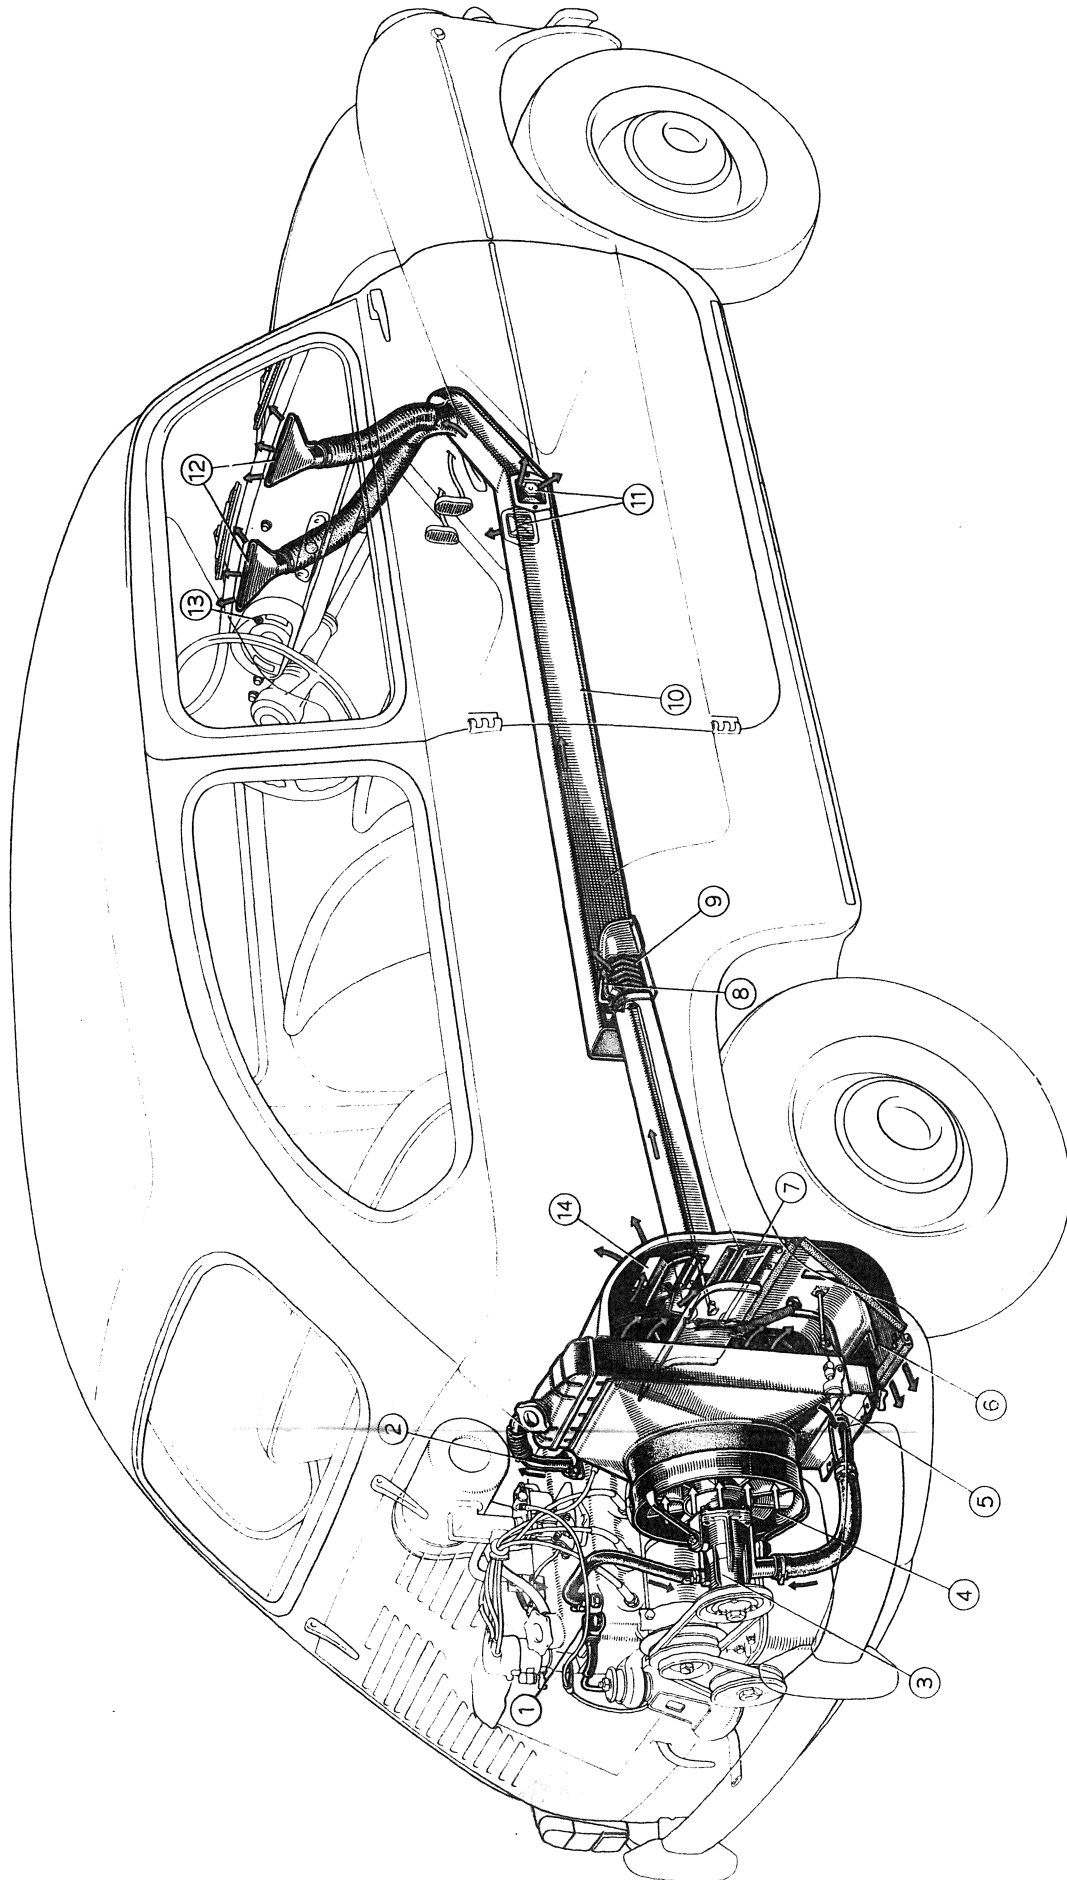

Fig. 379 - Engine cooling and car heating systems (Sedan).
To demist or defrost windscreen, turn clockwise the lever (8, fig. 379) under rear seat. This way, a continuous flow of warm air against windscreen and in luggage space behind rear seat (14, fig. 379) is obtained.
To improve heating, after turning the lever, press and turn the two warm air control knobs (11, fig. 379) on tunnel sides.
Lever (8, fig. 379) controlling baffle (7) and shutter (14) may be set at will in any intermediate position so as to regulate the flow of incoming warm air
A suitable cloth filter (9, fig. 379), in the portion of tunnel from control lever to baffle (7), cleanses the entering air.
Check that the hinges of baffle (7) and of shutter (14, fig. 379), the linkages and their fasteners are not deformed or damaged, otherwise repair or replace.
The axial spring on control lever (8, fig. 379) must not be weak.
If the conditioned air admitted into car is insufficient, clean the filter (9, fig. 379). To reach the filter, lift floor mat and take off filter cover after removing its three mounting screws.